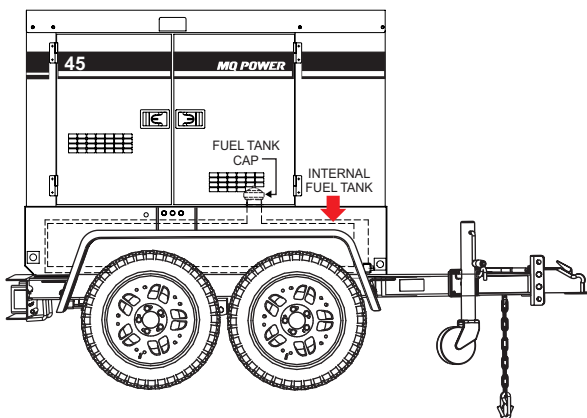

Figure 31. Fuel Tank
**ALWAYS** fill the fuel tank (Figure 31) with clean, fresh **#2 diesel fuel**. **DO NOT** fill the fuel tank beyond its capacity.